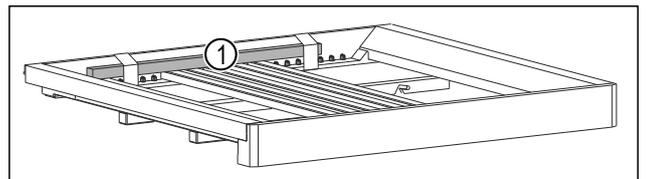

Fig. 6
- ▶ Remove the wooden stick Fig. 6 (1).